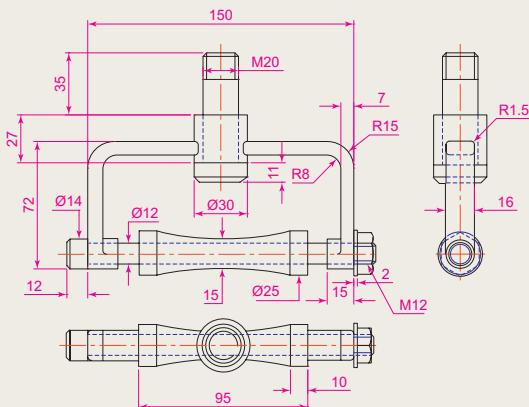
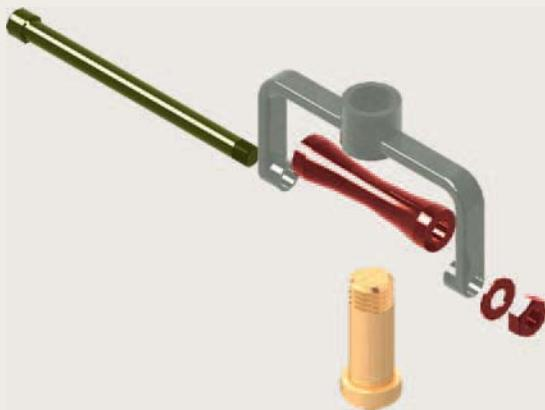

Fig. 18.22 Exercise 1-orthographic projection
Fig. 18.23 Exercise 1 – rendered 3D model
1. Working to the shapes and dimensions as given in the orthographic projection Fig. 18.22, construct the exploded 3D model as shown in Fig. 18.23. When the model has been constructed add suitable lighting and apply materials, followed by rendering.